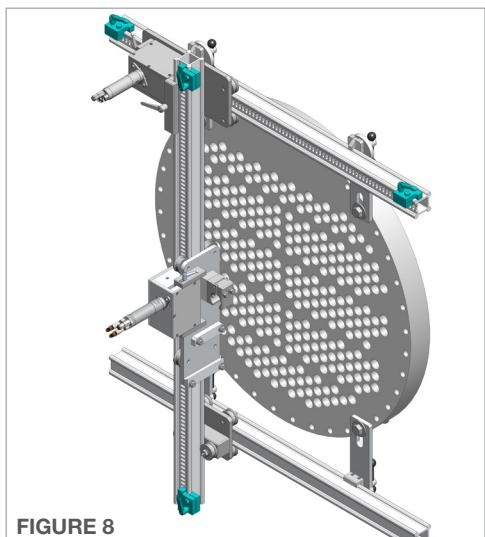

FIGURE 8
8. Install the four **Rail Stops** at both ends of the top, slotted, horizontal rail, and both ends of the vertical slotted rail. (**Figure 8**)